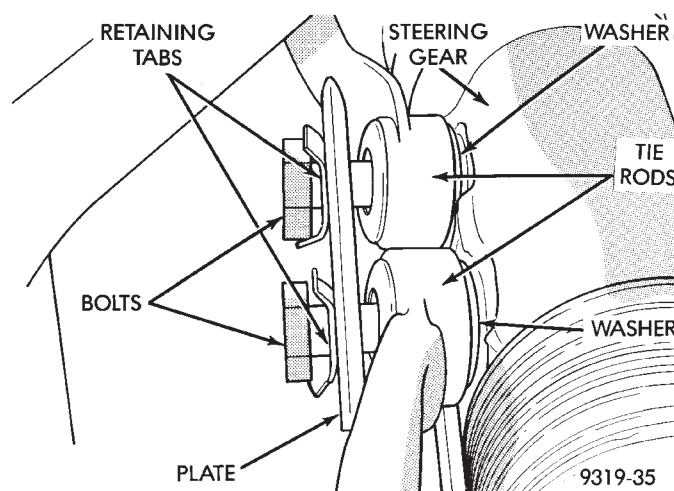

Fig. 33 Tie Rod Attachment To Steering Gear
(12) Align center take off on steering gear with the tie rod assemblies. Install tie rod attaching bolts and washers into steering gear. **Be sure washers are installed between tie rods and steering gear (Fig. 33). Tighten the tie rod to steering gear bolts to a torque of 82 N·m (60 ft. lbs.).**